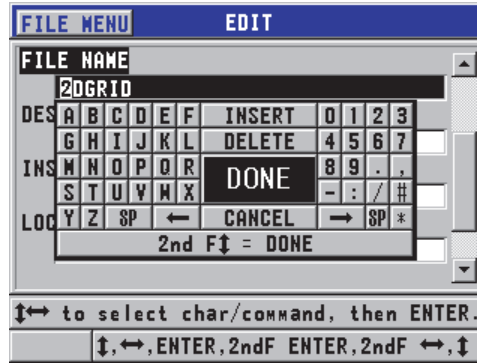

Figure 6-29 Entering new file information
2. In the **EDIT** screen (see Figure 6-29 on page 112):